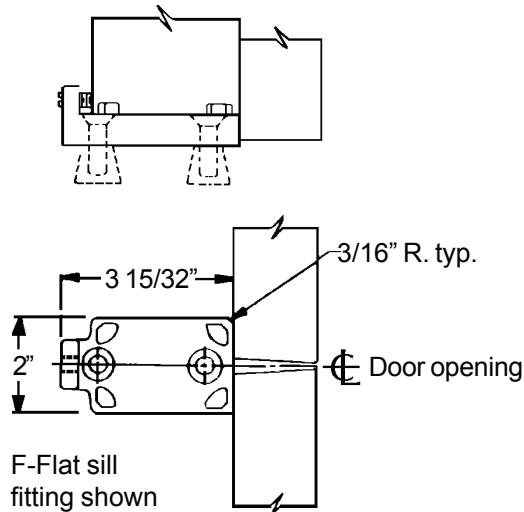

Figure 1
- 1 Line up bottom mullion fitting with center of door opening and flush with closed doors (Figure 1 or 2) and install.